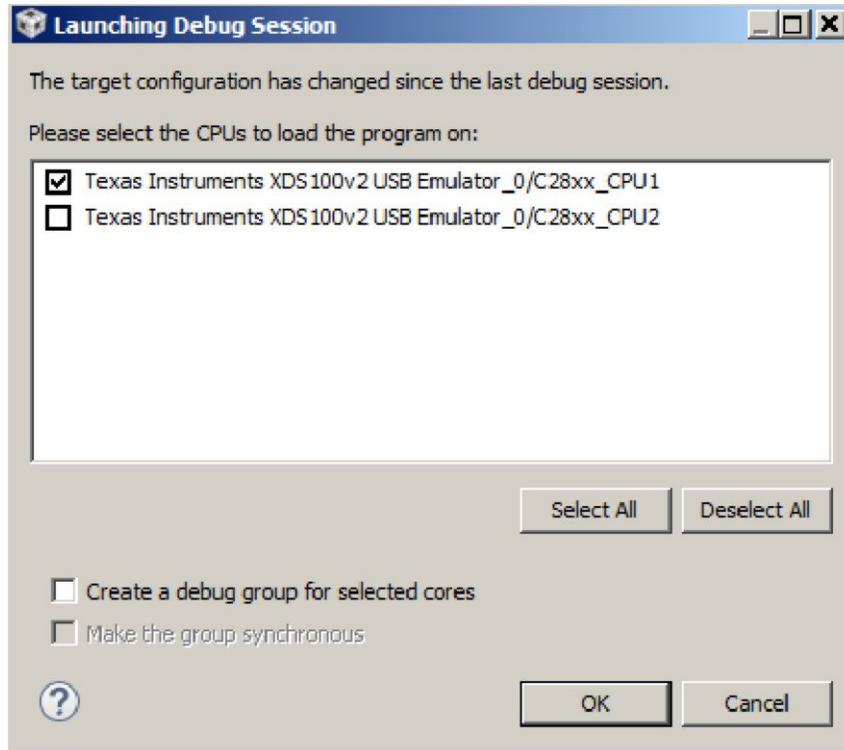

Figure 14. Selecting CPUs to Connect
4. Upon successful completion of the build, click the Debug button , on the top-left side of the CCS window. If a window appears prompting to select a CPU, ensure CPU1 is selected, and click the OK button (see Figure 14).